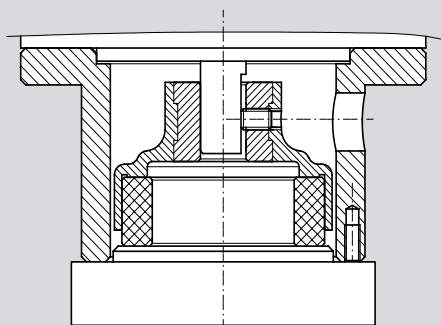

Fig. 2 -MGAF series external magnets with "D" shaft
6. Place the motor vertically on the AT152/1 device with the magnet facing downwards in order to place the magnet in the correct position (fig. 2). Tighten the dowel to the maximum torque of 1.5 Nm. MGAF series external magnets with "D" shaft.